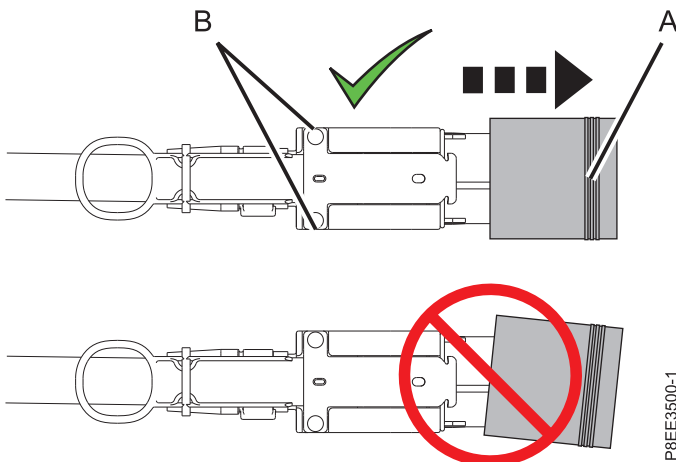

Figure 15. Removing the protective cover from the connector on the expansion drawer cable
- b. Remove the protective cover from the connector on the expansion drawer cable. Hold the cable housing (**B**) on the short edges with the index finger and thumb on one hand. Then, grasping the cover on the long edge (**A**) with the index finger and thumb on the other hand, pull the protective cover off. See Figure 15.